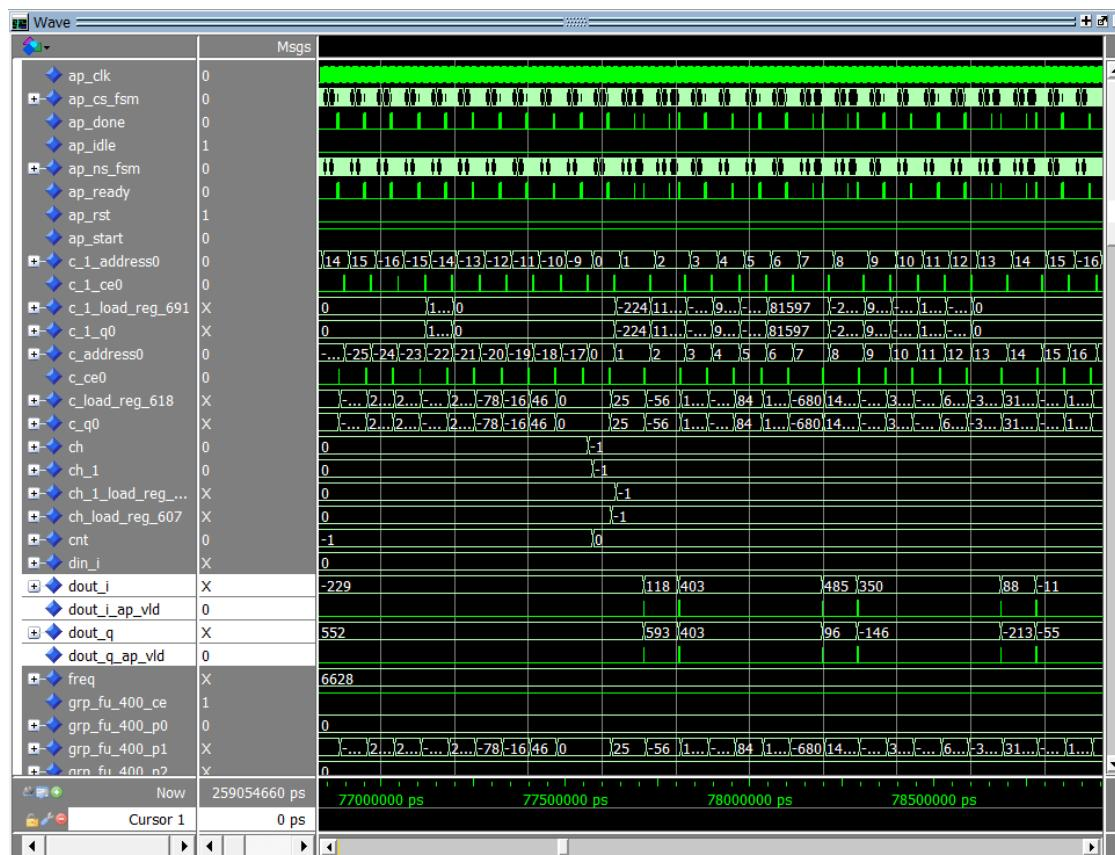

Figure 183 Viewing the Trace File in ModelSim
6. Add the signals to the trace window and adjust to see a view similar to Figure 183.